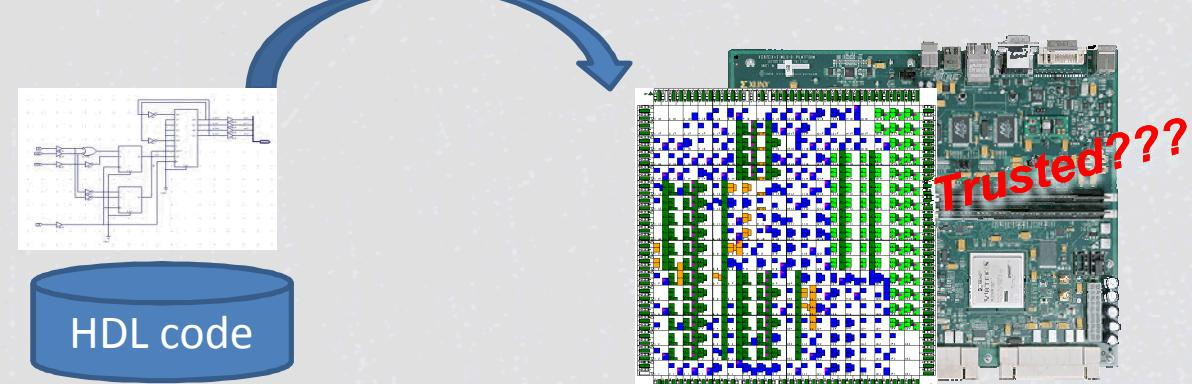

Figure 1. How to deliver trusted FPGA-based designs?
- How to formally verify a FPGA-based digital system (Figure 1)?
Figure 1. Hardware design flow. Left: Design flow without formal methods – passing simulation proves correctness. Right: Design flow augmented with formal verification – passing verification ensures that the formal specification is held.